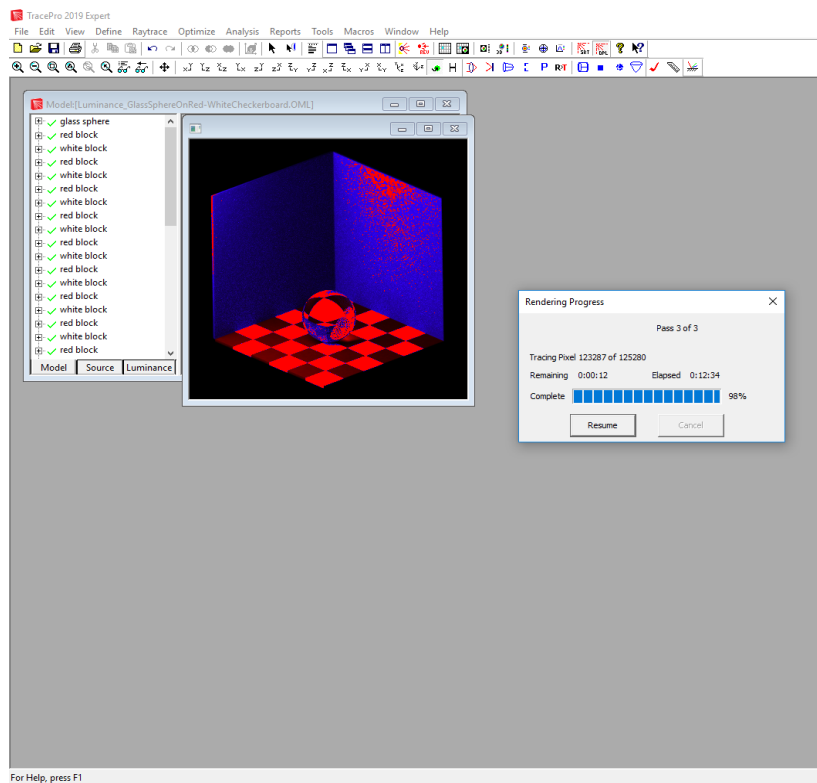

FIGURE 9.72 - Photorealistic rendering result after two rendering passes.
6. Next the Rendering Progress dialog box will appear, and the rendering window will be updated after each rendering pass. Figure 9.72 shows the appearance of the rendering window after one pass.